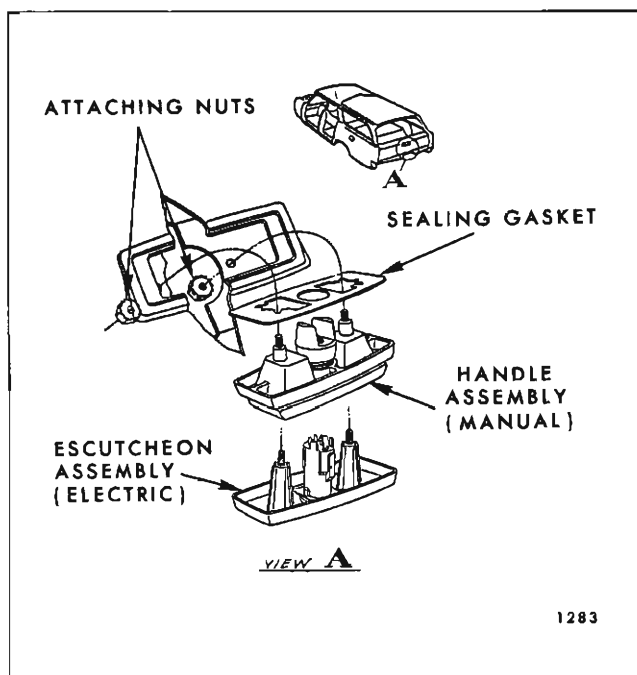

Fig. 2F25—Tail Gate Window Handle (Manual) and Escutcheon (Electric) Assembly
4. Remove two jamb switch attaching screws from tail gate right side facing at tail gate lock and remove jamb switch. (See Fig. 2F21).